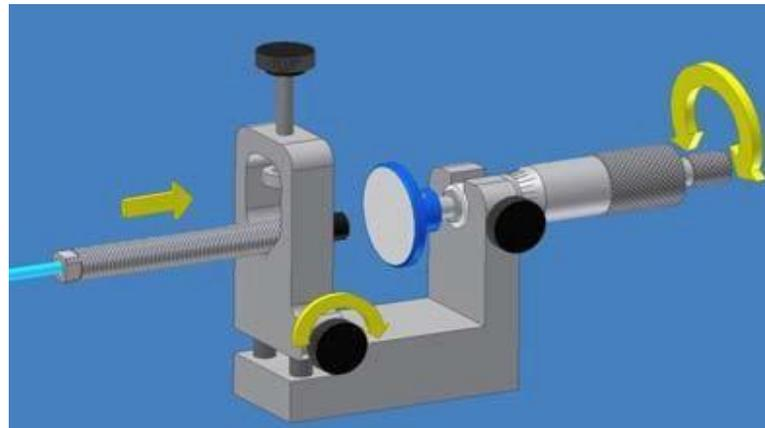

Figure 2-5: Slide the probe through V Probe Mount until the Probe and Target faces are flush.
3. Install the probe into the V Probe Mount by sliding it through until the probe face and target face are butted up flush with one another. Take care not to damage the probe tip; insertion with excessive force is not necessary. See Figure 2-5 for reference.